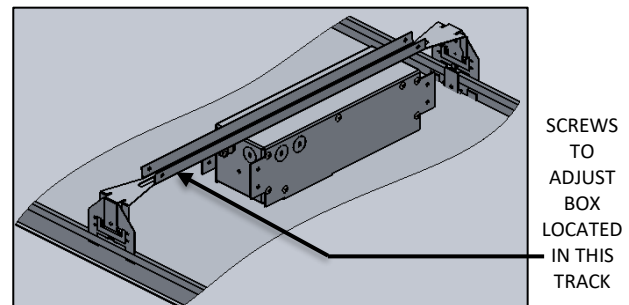

FIG. 24- J-BOX ASSEMBLY ORIENTATATION
15. From an adjacent opening attach the J-BOX to the GRID with the SUSPENSION BARS [BY OTHER] attached on the top. (Position of the J-BOX can be moved by loosening the top 2 SCREWS) as shown below in FIG.24.